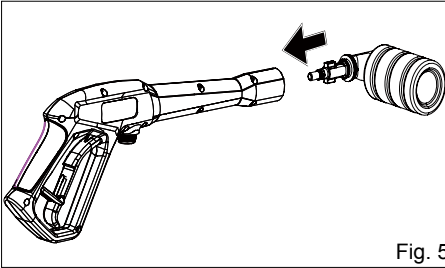

Fig. 5-1
- Insert the male end of the bottle into the female outlet on the trigger handle. (See Figure 5-1.)